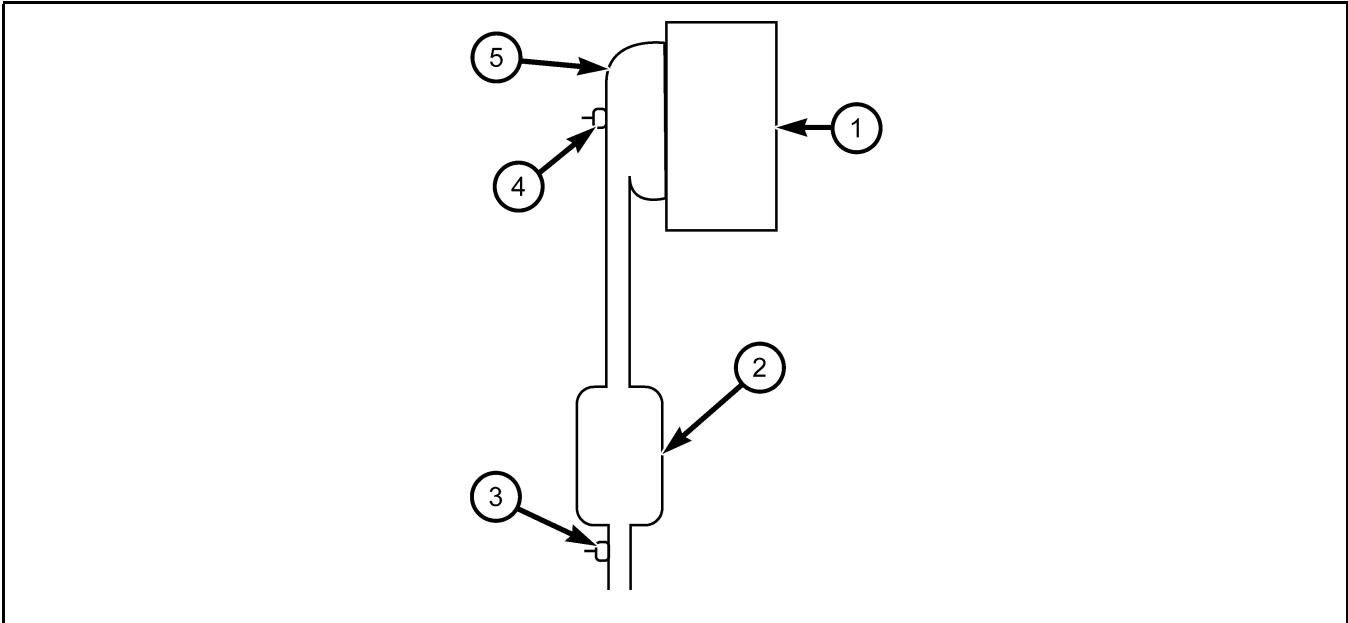
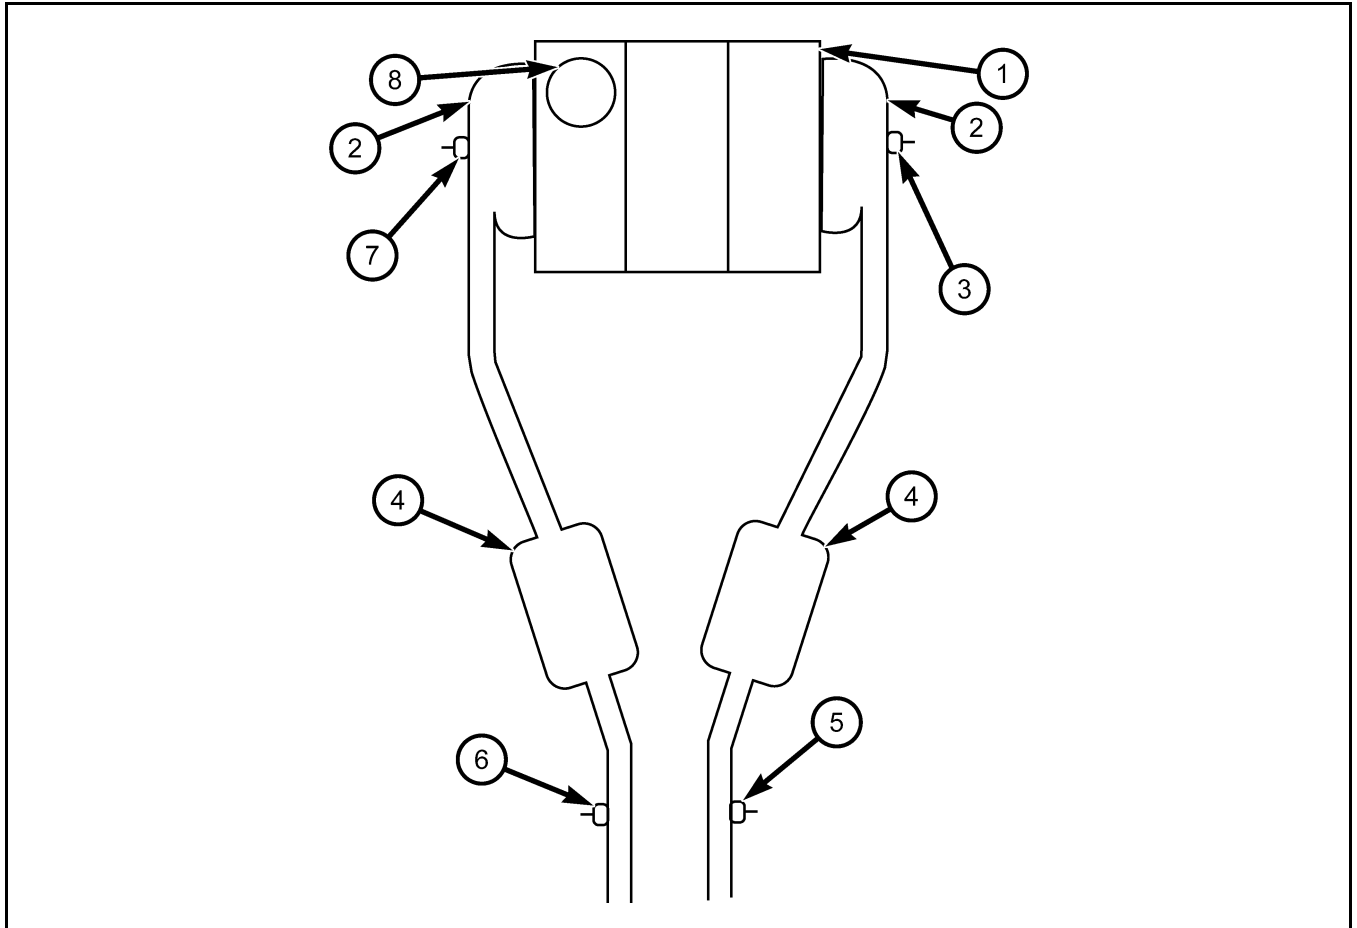

Figure 14 Naming Conventions of O₂ Sensors (1/1 and 1/2)
Figure 15 Naming Conventions of O2 Sensors (1/1, 1/2, 2/1, and 2/2)
Oxygen sensors are typically represented as 1/1, 1/2, 1/3, etc (fig. 14 and fig 15). The first digit indicates the bank of the engine the O₂ sensor is on. The digit "1" indicates the O₂ sensor is on the same bank as the number 1 cylinder. The digit "2" represents a location on the bank opposite the number 1 cylinder. The second digit represents upstream (1), downstream (2) or mid-catalyst (3) locations.